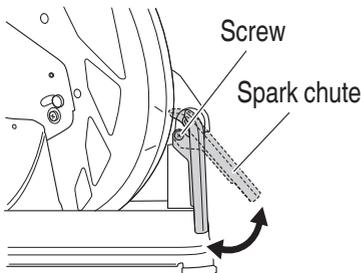

Fig. 12
7. Adjusting the Spark chute (**Fig.12**)